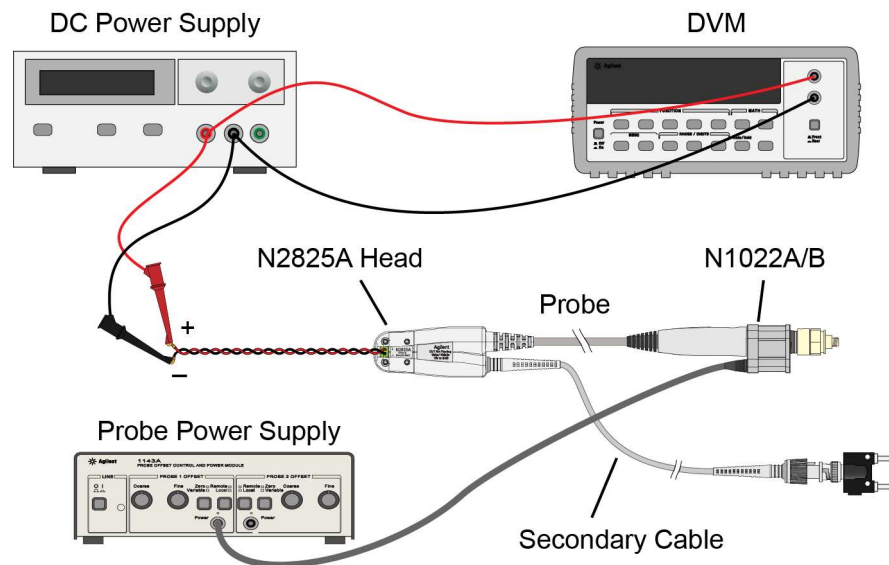

Figure 53 Test Setup for Measuring V_{in}
- 1 Snap an N2825A head onto the N2820/1A probe and connect the test equipment as shown in Figure 53. Be sure to connect the positive side of the DC supply to the red lead on the N2825A head.
- 8** Connect the multimeter on the DC power supply as shown in Figure 53 on page 107.